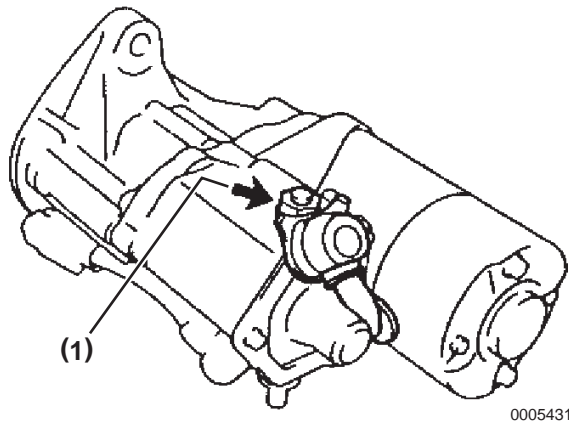

Figure 10-43
14. Connect the lead wire to terminal C (**Figure 10-43, (1)**) and install the nut and torque to 215 kgf-cm, 21.08 N-m (186.5 lb-in.).